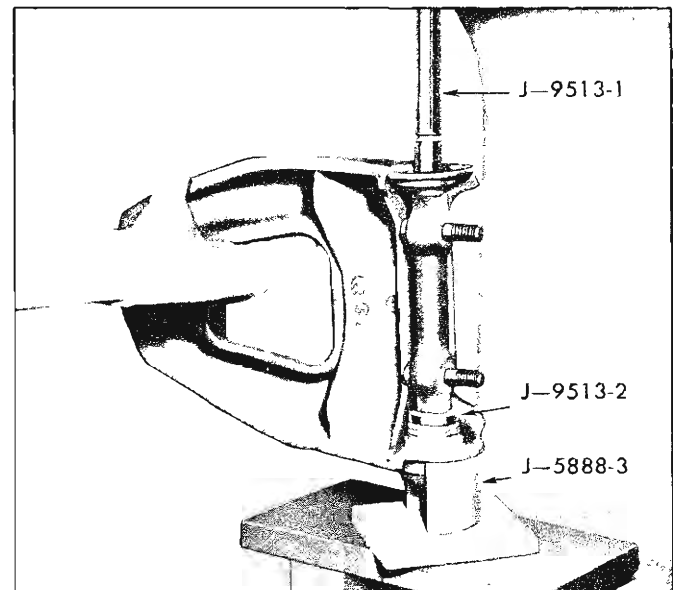

Fig. 45—Removing Remaining Pivot Shaft Bushing—Chevy II
6. Press remaining bushing out in the same manner (fig. 45).